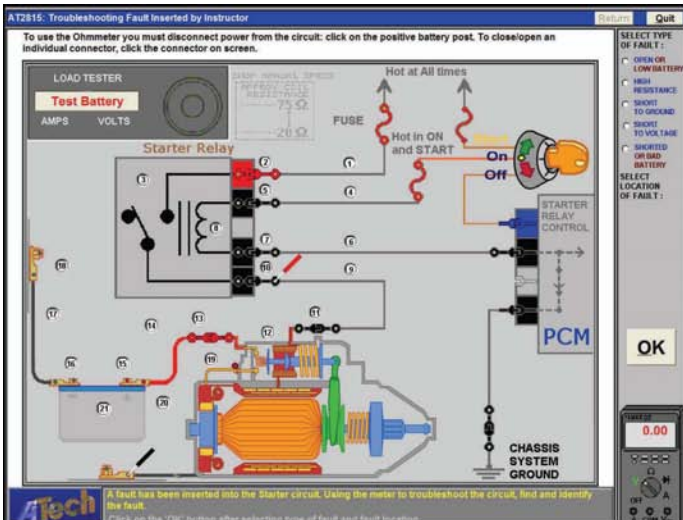

Figure 3
How can we determine if there is current flow through the starter solenoid branch? As shown in figure 3, measure the voltage drop across the solenoid assembly from the chassis ground cable to the relay (10). The meter indicates 0 volts. You could also measure from the negative battery post to the chassis cable at the starter and compare that to the voltage measured at the relay (10). Both points should measure 1.15 volts which results in a 0 voltage drop.